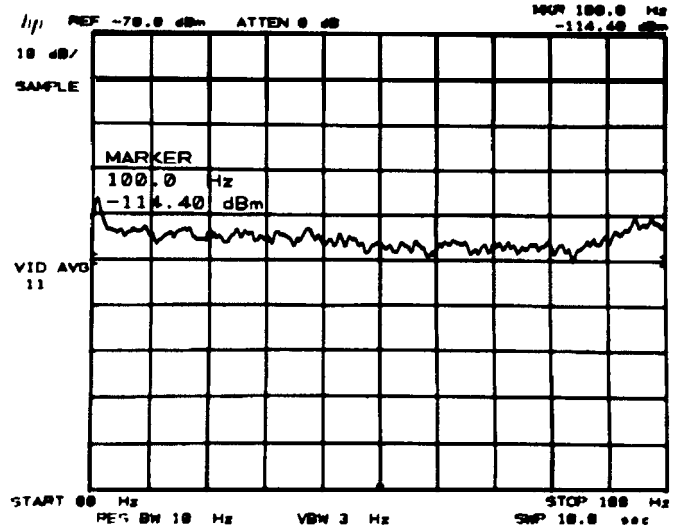

Figure 2-26. Average Noise Level Measurement
7. Press **MARKER** **(NORMAL)**. Tune to 100 Hz, or the nearest frequency that is not on the slope of the LO feedthrough or on a line-related sideband (e.g., 120 Hz). Refer to Figure 2-26.